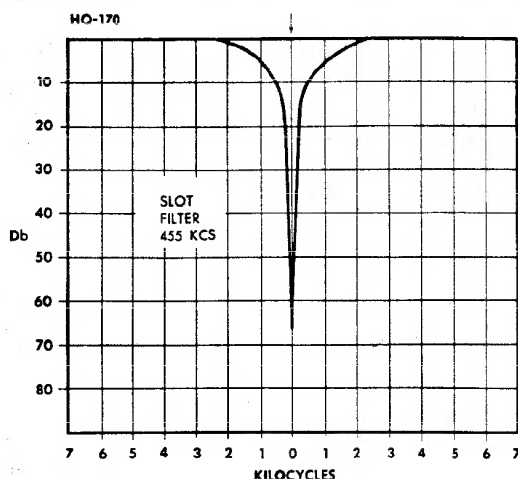

Figure 6. Slot Filter Response Curve
*** The Slot frequency control provides an extremely sharp adjustable slot or hole in the selectivity curve (see Figure 6). It is normally located outside of the passband of the 2nd IF (455 Kcs). It is brought into the passband for the purpose of eliminating interference from heterodyne